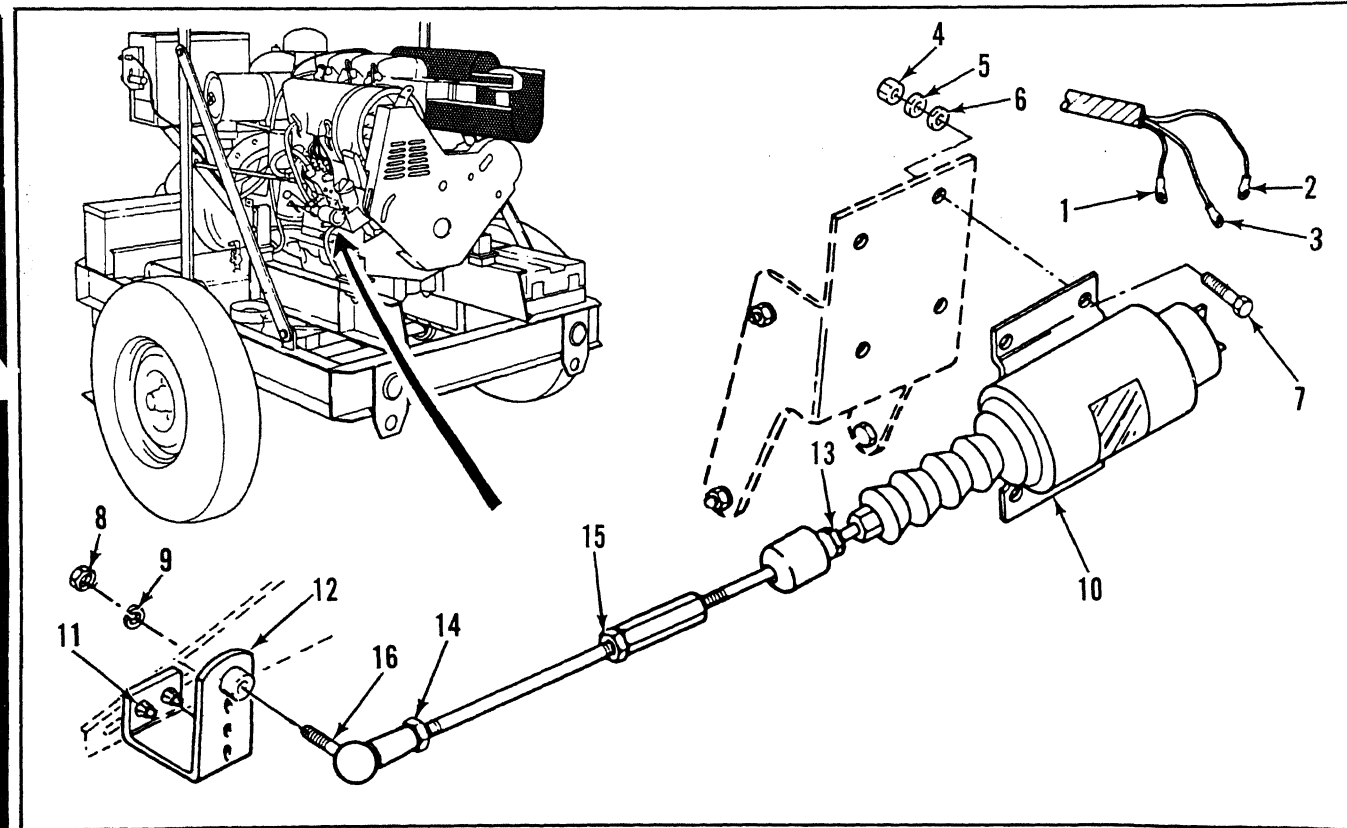

Figure 4-22. Shutdown Solenoid, Removal/Installation.
b. Removal (figure 4-22)
- (1) Disconnect wires (1, 2, and 3).
- (2) Remove nuts (4), lockwashers (5), flatwashers (6), and bolts (7).
- (3) Remove nut (8) and lockwasher (9).
- (4) Remove shutdown solenoid assembly (10) with linkage.